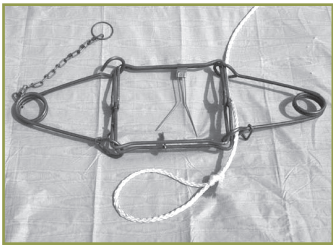

Figure SKF5a. Step 1
- 1) Thread the rope through the eyes of one of the springs (Figure SKF5a).